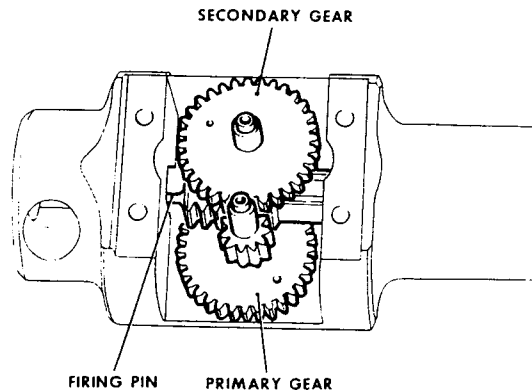

Fig 4 Assembling the unit (1)
7.2 Fit the primary and secondary wheels (fig 4).
7.3 Lubricate the firing pin stem and rack and fit to the unit, engaging the teeth with the teeth of the primary wheel (fig 4).